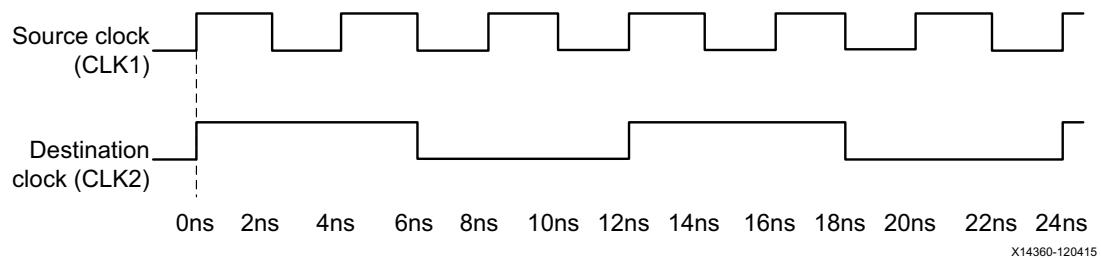

Figure 5-21:
In the next example, the launch clock CLK1 is the fast clock. The capture clock CLK2 is the slow clock. Assume that CLK1 is three (3) times the frequency of CLK2. See Figure 5-21.